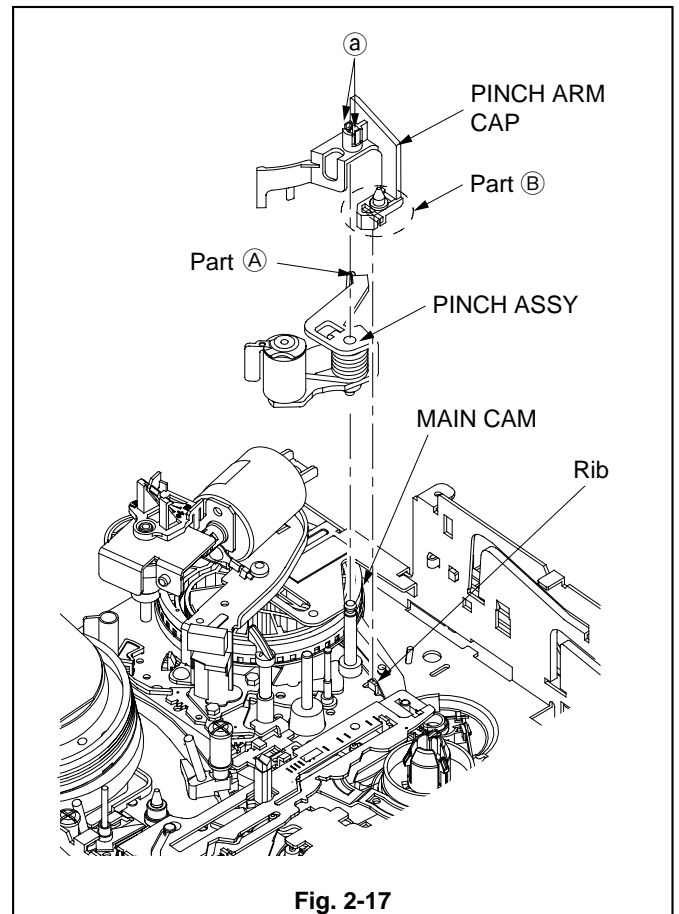

Fig. 2-17
1. Release the two catches (a) of the PINCH ARM CAP shown in the Fig. 2-17 to remove the PINCH ARM CAP.
2. Remove the PINCH ASSY shown in the Fig. 2-17.
1. Insert Part (A) of the PINCH ASSY shown in the Fig. 2-17 in the most external groove of the MAIN CAM.
2. Install the PINCH ARM CAP matching the Part (B) of the PINCH ARM CAP with the Rib of the MAIN PLATE ASSY.